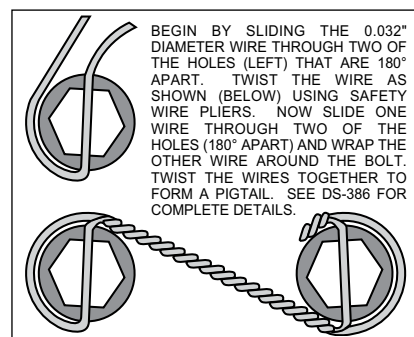

Figure 5. Safety Wire Diagram
- Slide the bracket kit assembly (1) onto the housing flange and then insert the axle assembly through the center hole of the bracket kit assembly (1). Align the bearing retainer (2) with the four holes inside the bracket assembly (1) and secure using the stock Original Equipment Manufacturer (OEM) bolts and nuts. Stock OEM hex nuts that retain the bracket kit assembly (1) and retainer (2) should be on the wheel side of the bracket. Apply red *Loctite*® 271 to the stock OEM bolt threads and torque to OEM specifications. Make sure the bracket kit assembly (1) brake pads are FACING OUTWARD TOWARDS THE WHEEL.
- With the larger I.D. side of the rotor (4) facing away from the hat (3), bolt rotor (4) to hat (3) through the backside of the rotor using washers (5) and bolts (6). Apply red *Loctite*® 271 to the bolt threads and torque to 155 **in-lb** using a criss-cross pattern. For an added measure of security, the bolts may be safety wired using standard 0.032 inch diameter stainless steel safety wire as shown in Figure 5. Please refer to Wilwood's data sheet DS-386 (available at [www.wilwood.com/Pdf/DataSheets/ds386.pdf](http://www.wilwood.com/Pdf/DataSheets/ds386.pdf)) for complete safety wire installation instructions.
- Slide the rotor registration adapter (18) onto the axle register on the axle flange with the smaller O.D. facing toward the rotor/hat (3). Align the correct hole pattern in the hat with the stud pattern on the axle flange. **NOTE: Some OEM and aftermarket axles come with stud sizes larger than 0.50" diameter.** Verify stud size and have a qualified machine shop drill the hats to the correct size, if necessary. Slide the hat/rotor assembly (3 and 4) over the wheel studs covering the bracket kit assembly (1) and against the axle flange face. Check to be sure the hat seats squarely against the hub. Install a couple of lug nuts (finger tighten) to keep the rotor/hat assembly in place while continuing with the installation.